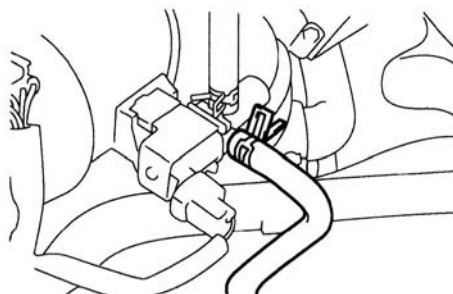

Figure 106
2. Check fuel vapor emission control system. See (Figure 106)